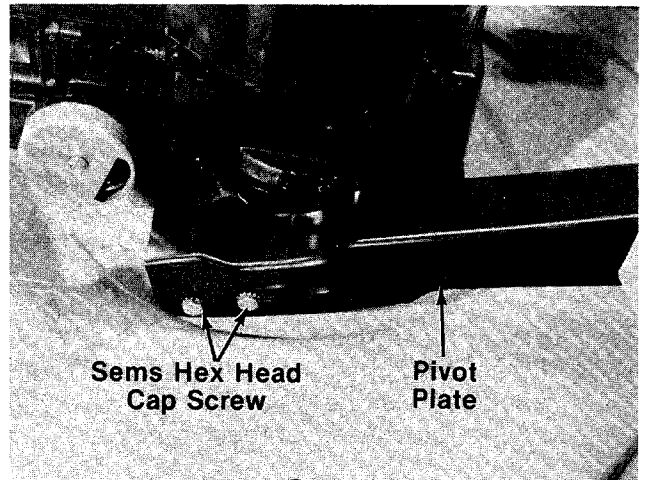

FIGURE 14.
1. Loosen (do not remove) two hex head cap screws. See figure 14.